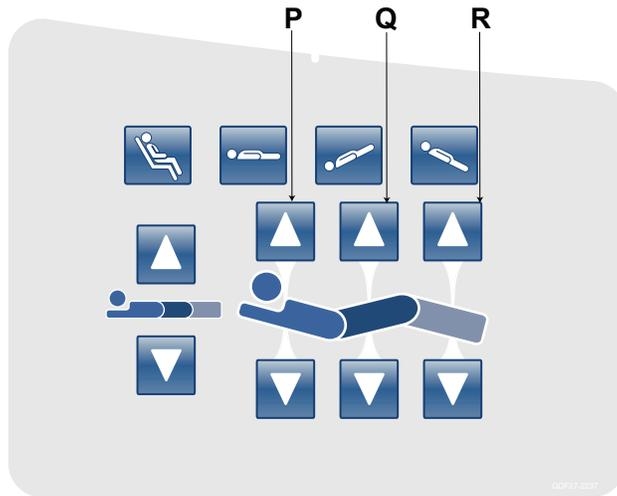

Figure 18 – Foot section flat
24. Press the **Fowler Up (P)** button until the Fowler reaches the highest height. Next press the **Gatch Up (Q)** button until the Gatch reaches its highest height. Last press the **Foot Up (R)** button until the foot section reaches its highest height (Figure 18). The foot section should be at a flat position.